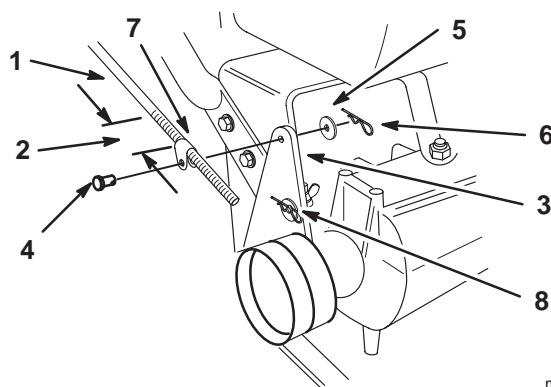

Figure 10
2. Make sure the rod fittings are equal distance onto each control rod. The rod fittings should be approximately 3-1/2 inch (89 mm) from the start of the threads for the handles lowest position (Fig. 10).
3. Slide clevis pins through rod fittings and mounting holes in idler brackets (from outside) (Fig. 10). Secure with washers and hairpin cottes (Fig. 10).